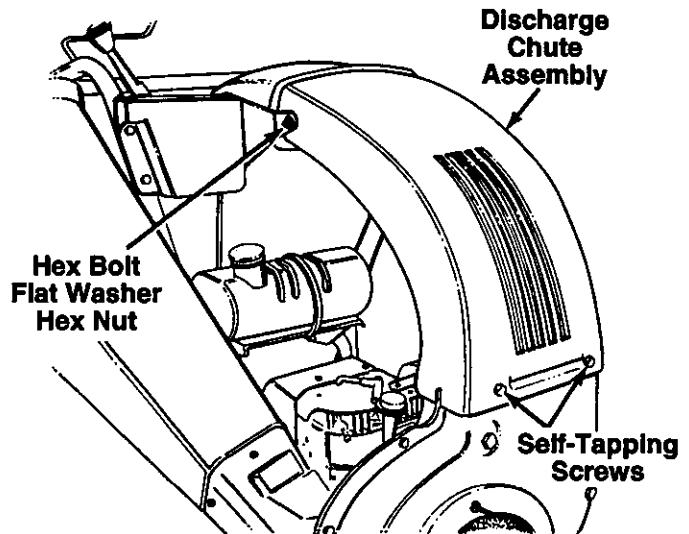

FIGURE 12.
3. Remove the four self-tapping screws from the bottom of the discharge chute, and the hex bolt, flat washer and hex nut from the top. Remove the discharge chute assembly. See figure 12.